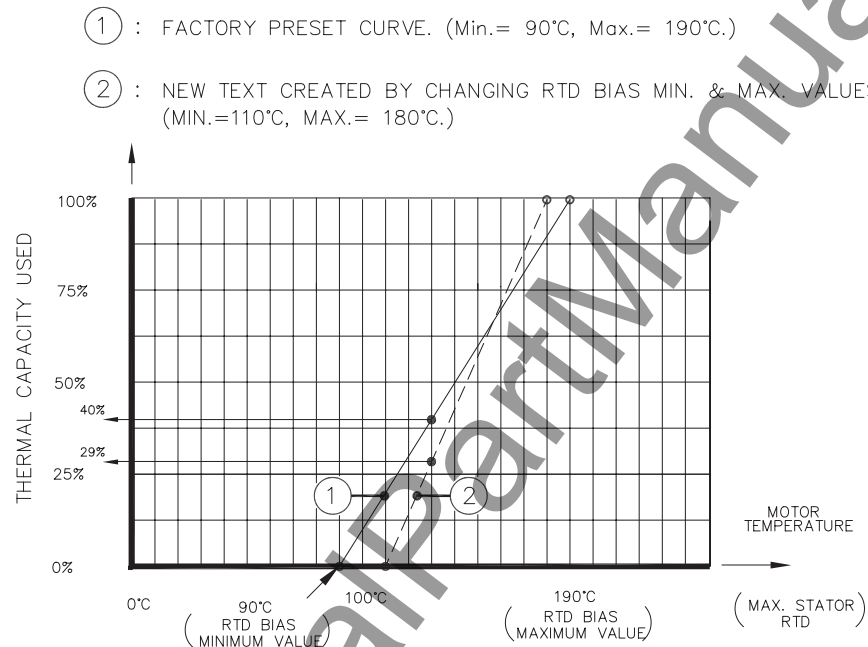

Figure 3-4 Hot Motor Thermal Capacity Reduction
When the hottest stator RTD temperature is included in the thermal memory (SETPOINTS mode, page 5; factory preset disabled) the maximum measured stator RTD temperature is used to bias the thermal memory. The thermal capacity available in the relay is reduced proportional to the RTD stator temperature. When the stator temperature is at the RTD bias curve maximum value (SETPOINTS mode, page 5) the remaining thermal capacity available will be reduced to 0%. The capacity will not be reduced at all when the RTD stator temperature is at the RTD bias curve minimum value or below (SETPOINTS mode, page 5). Between these extremes thermal capacity reduction increases linearly with the maximum stator temperature, as shown in Figure 3-4. The RTD temperature input to thermal memory can be enabled in SETPOINTS mode, page 5.
An example of how the RTD input to thermal memory affects the thermal capacity available is described below and illustrated in Figure 3-4. If curve 1 is used (i.e. factory preset values) and the stator temperature is 130 C, the available thermal capacity will be reduced to 59%. If the RTD bias curve minimum and maximum values are
changed to correspond to curve 2 in Figure 3-4 the result will be somewhat different. The thermal capacity available will be approximately 71% at 130 C. The thermal capacity available at any temperature between the RTD bias curve minimum and maximum values can be determined from the graph or calculated as follows:
When RTD input to thermal memory (SETPOINTS, page 5) is enabled and the Emergency Restart feature is used, thermal capacity will be reduced to 0% only for as long as the Emergency Restart terminals are held shorted (note: it may take up to 11 seconds for the "Thermal Capacity Used" display to change to 0%). When the Emergency Restart terminals are opened again the thermal capacity will change to what is used according to the maximum stator RTD temperature and Figure 3-4. Thus, momentarily shorting the Emergency Restart terminals with RTD input to thermal memory enabled may not reduce the thermal capacity used to 0% when the motor is hot.
**Note:** If RTD input to thermal memory is enabled (SETPOINTS, page 5) the lock-out time may not be reduced to 0 minutes since the thermal capacity available is dependent on the RTD bias curve (Figure 3-4) and the maximum stator RTD temperature (see section 3.21).